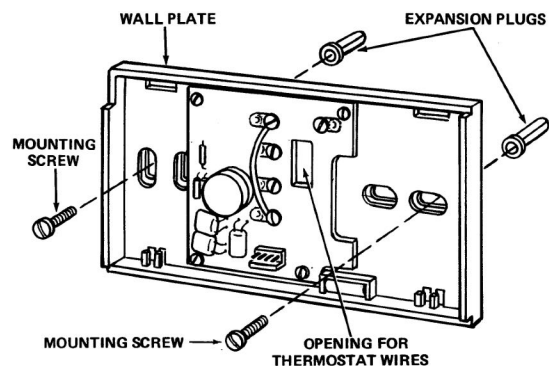

Fig. 13
4. **FOR HEATING-ONLY THERMOSTATS:** Disconnect two wires and remove old thermostat. Install the new wall plate (Fig. 13) by following the directions under "For Heating Only — Installing New Wall Plate."
2. Place Wall Plate (Fig. 13) against wall where old thermostat was located.
3. Fasten Wall Plate to wall with the two mounting screws provided. If holes in wall are too large and the Wall Plate cannot be tightened firmly, drill two new 3/16" holes and use the two plastic expansion plugs provided (Fig. 13).